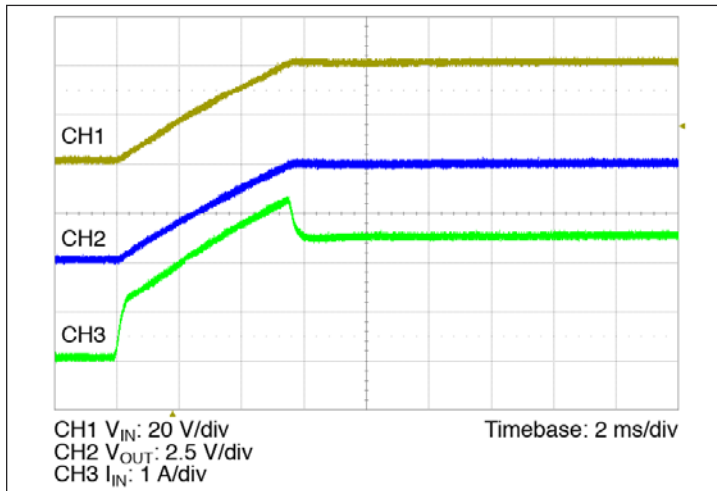

Figure 13 – Start up from application of  $V_{IN}$ ; VC pre-applied
- Normal Operation (VC applied prior to VIN): In this case the controller is active prior to ramping the input. When the input voltage is applied, the VTM output voltage will track the input (See Figure 13). The inrush current is determined by the input voltage rate of rise and output capacitance. If the VC voltage is removed prior to the input reaching 26 V, the VTM may shut down.